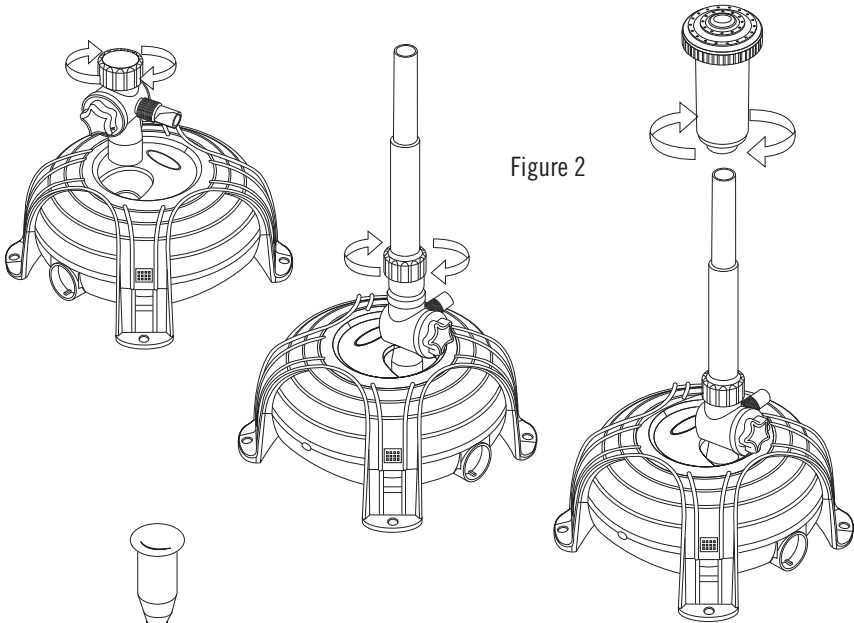

Figure 2
- 1) Screw the Divert Valve to the threaded body of the pump that protrudes out from the central part of the upper shell Fig. 2.
- 2) Fasten the telescopic tube to the Divert Valve Fig. 2. In the AquaJet 1000 and AquaJet 1500 (equipped with the 2-1 Fountain Head) fasten the telescopic tube by screwing the ring nut to the Divert Valve. If the ring nut is loosened you can direct the telescopic tube of the AquaJet so that it is perpendicular to the water surface.